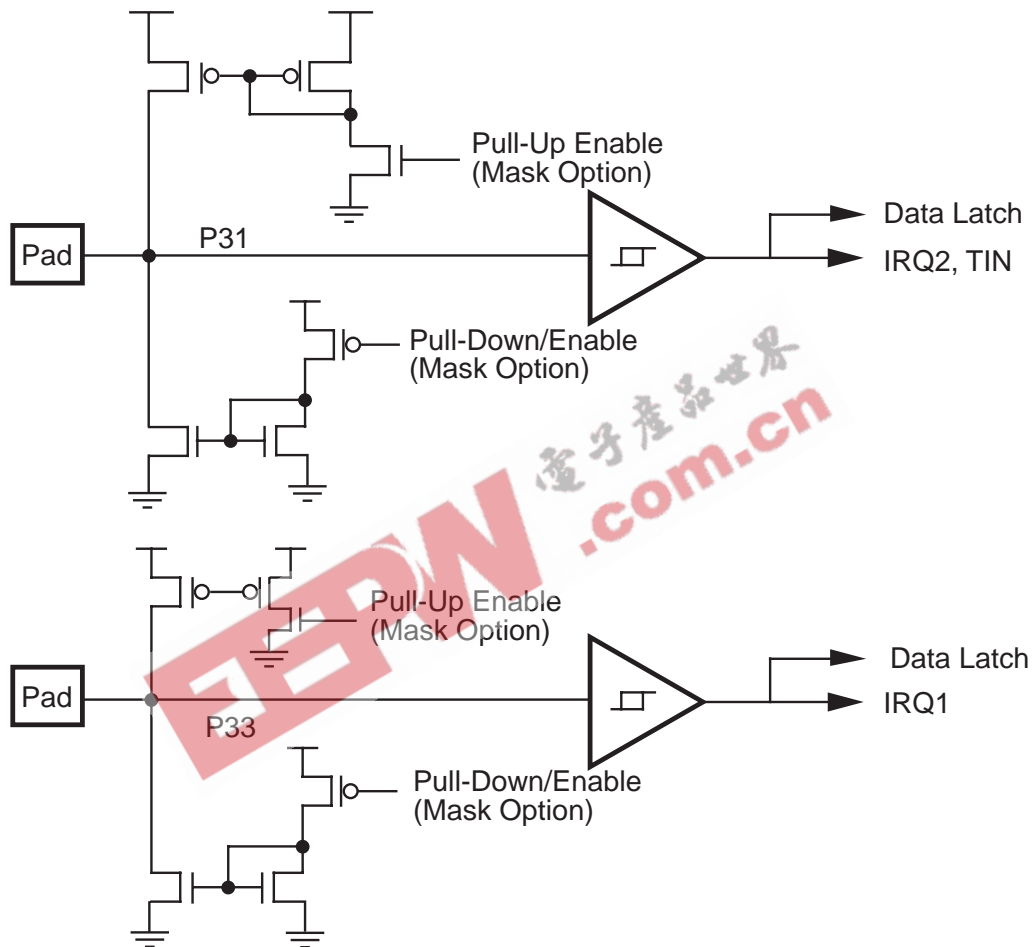

Figure 12. Port 3 P33, P31 Configuration
**Port 3 (P33, P31).** Port 3 is a 2-bit, CMOS-compatible port with two fixed input lines (P33, P31). These two lines can also be used as the interrupt sources IRQ2 and IRQ1. P31 can also be configured as a timer input. Both lines can be configured through ROM mask selection to sink or source current emulating a 100K pull-up or pull-down resistor (Figure 12). Port 33-31 can be accessed through the P3 register. The upper 4 bits of this 8-bit register always reads "1111." Bit D2 reads 0 and Bit D0 reads 1. Bits D3 and D1 represent P33 and P31 respectively (see Figure 36).